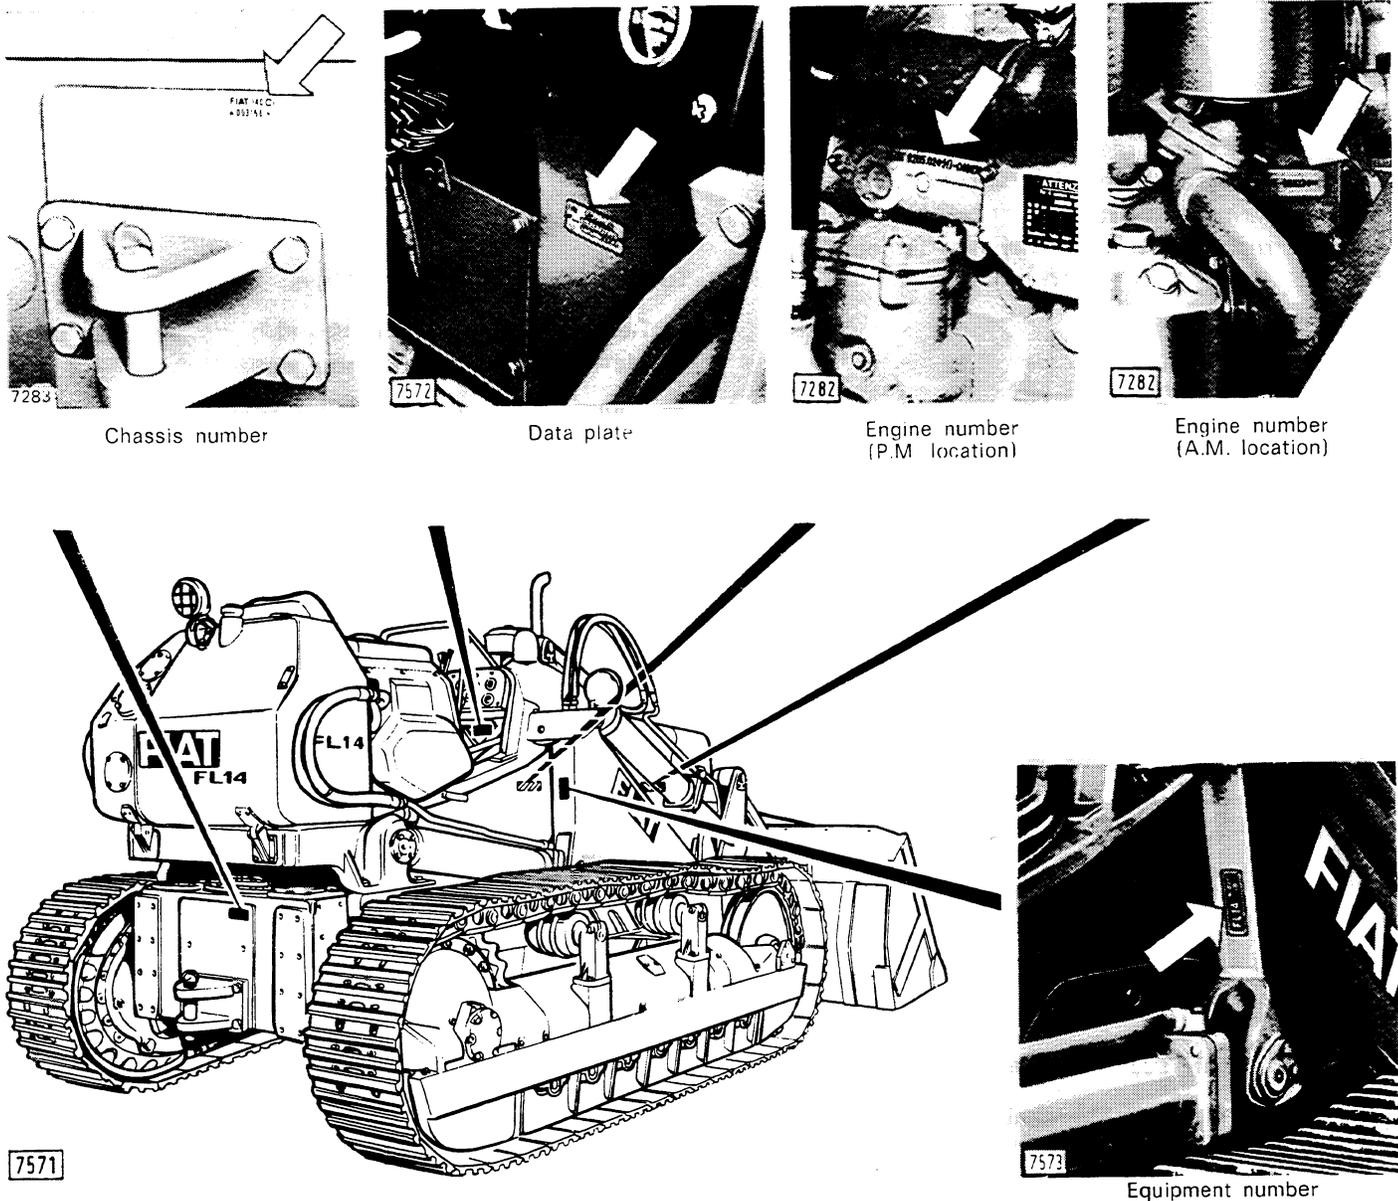

Fig. 2 - Location of identification data on the machine
- Tractor model (marketing code) and chassis number (see Fig. 2).
- Engine type and number (see Fig. 2).